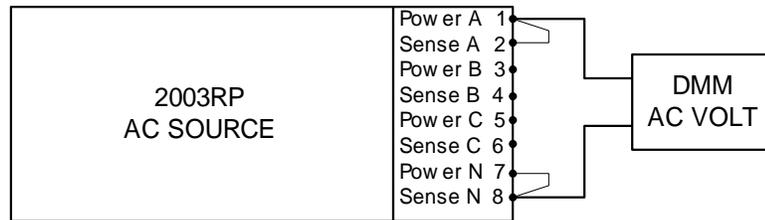

Figure 6-1: Test Equipment Hookup for Routine Output and Voltage Measurement Calibration
Connect the test equipment to the power source as shown in Figure 6-1. The DMM can be connected to the common output terminal at the rear of the unit. Use the phase output for phase A, B and then C in sequence to calibrate all three phases.
1. Connect the test equipment to the power source as shown in Figure 6-1. **Do not** connect any load during this step. Voltage calibration must be done under no load conditions.